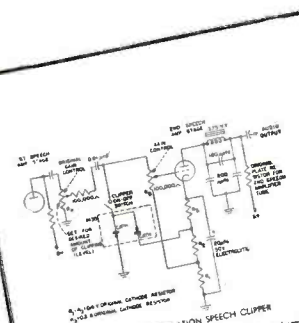

Figure 25. PREMODULATION SPEECH CLIPPER
2.5. PREMODULATION SPEECH CLIPPER. The distortion advantage of speech clipping may be obtained in an existing amplifier by including a modulation clipper unit between the first and second stages of the speech amplifier. Such may be constructed as shown in Figure 25. The original gain control of the amplifier becomes the clipper control. The control is not so convenient as the desired level as shown in Figure 25. A variable potentiometer is connected to the desired level. The DMS should be used to supply the clipper control. A variable potentiometer is connected to the desired level and three capacitors in the clipper control circuit for the circuit.